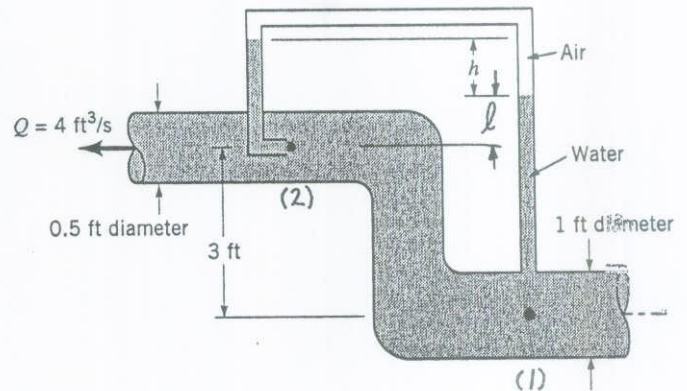

FIGURE P3.85
3.85 Water, considered an inviscid, incompressible fluid, flows steadily as shown in Fig. P3.85. Determine  $h$ .